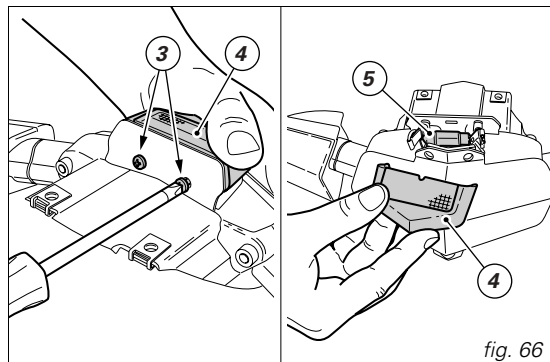

fig. 66
Loosen the two self-tapping screws (3) securing body (4) with transparent cover for number plate light. Slide out the body and transparent cover and change bulb (5) for number plate light (fig. 66).